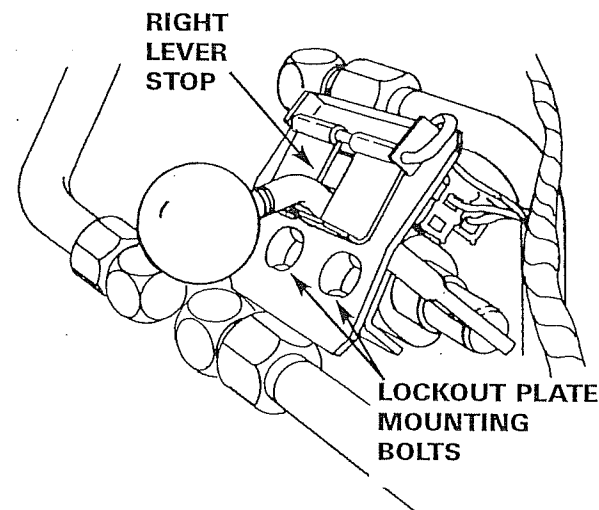

FIGURE 8
2. Install the PTO lockout plate assembly (23) to the valve bracket as shown in figure 8 using two (2) 5/16" - 18 x 1/2" hex bolts (25). (NOTE: DO NOT tighten at this time.)
4. Remove blank from shift cover, and re-install cover with four (4) phillip head screws removed in preparation steps. Install shift and PTO knobs.
5. Install screen on right side of steering tower with four (4) phillip head screws.
1. To engage PTO: lift right LEVER STOP and slowly move the PTO LEVER to the right (see figure 8). As the attachment increases in speed, continue moving the lever to the right and up until it is in the detent position. (NOTE: DO NOT move the PTO LEVER to the left unless your attachment permits reverse operation. Motor damage may occur. (Consult your attachment owners manual.)